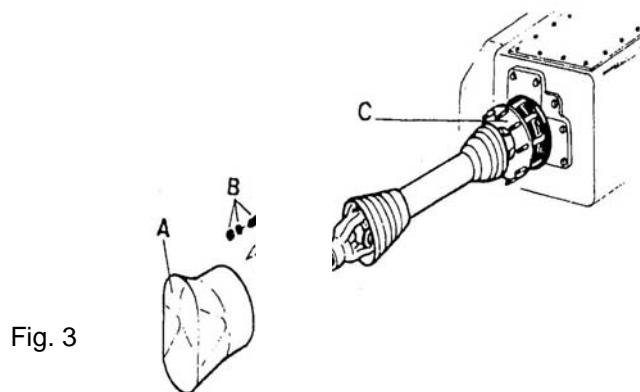

Fig. 3
-Fit the clutch plate (C) on the 9 exposed bolts and secure with the 9 springs, washers and nuts (See Fig. 3). Tighten the 9 nuts fully to ensure correct seating of the clutch components. Then slacken nuts and locknuts until the springs can easily turn by hand, then adjust the clutch following instructions on page 18.
-Refit the guard (A)